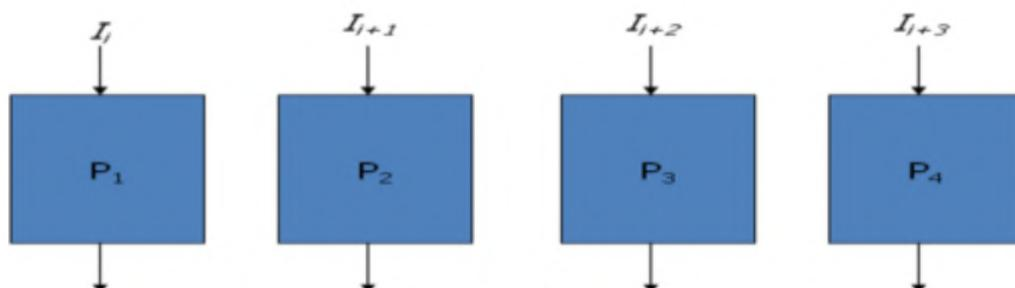

Fig 4-4: Multiple functional units in parallel
- This is illustrated in Fig. 4-4, where four identical circuits are connected in parallel